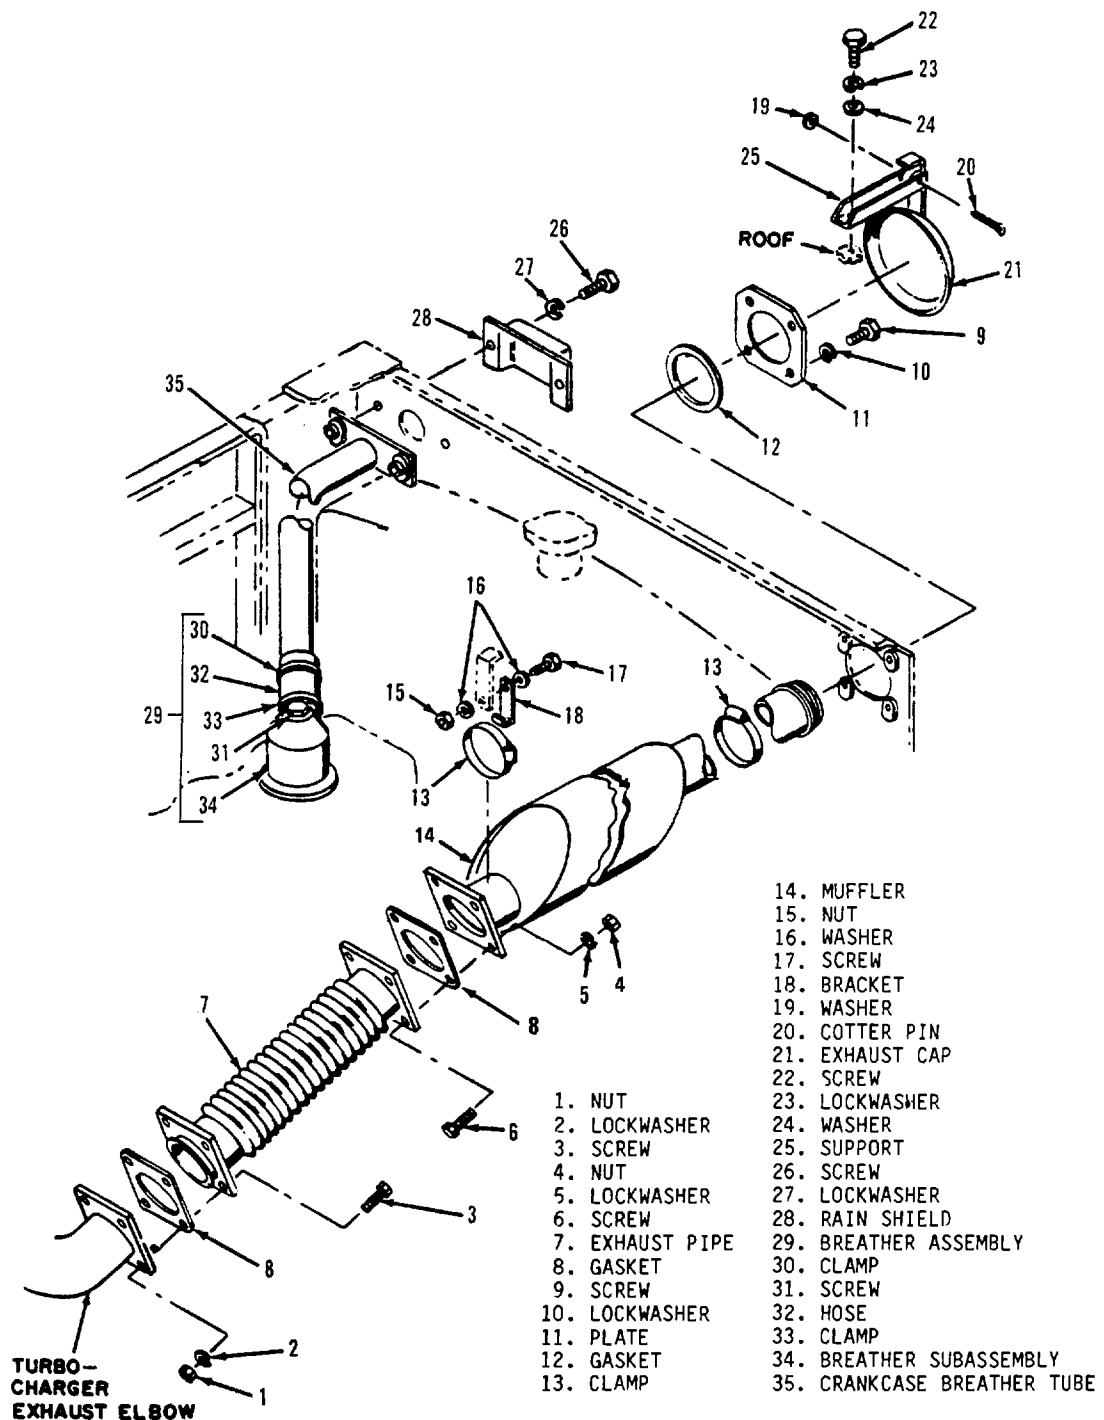

Figure 4-50. Exhaust and Breather System, Exploded View
4-96. INSPECTION. Inspect the exhaust and breather system as follows (see figure 4-50).
a. Removal. See figure 4-50 and proceed as follows:
(1) Remove nuts (1), lockwashers (2), and screws (3) to separate exhaust pipe (7) from the turbocharger exhaust elbow.
(2) Remove nuts (4), lockwashers (5), and screws (6) to separate exhaust pipe (7) from muffler (14).
(3) Remove exhaust pipe (7), then remove and discard gaskets (8).
(4) Remove screws (9) and lockwashers (10), then remove plate (11) and gasket (12) from muffler (14).
(5) Hold the muffler (14) in position and remove clamps (13), then remove the muffler from the generator set.
(6) If the bracket (18) is damaged, remove nut (15), screw (16), and washers (17) to remove bracket (18).
(7) If the exhaust cap or support are damaged, remove retaining washer (19) and cotter pin (20) to
(1) Remove screws (26) and washers (27) to remove rain shield (28).
(2) Loosen forward engine breather clamp (30). Loosen engine breather screw (31) to permit movement of breather assembly (29).
(3) Hold engine breather hose (32) stationary and twist breather tube (35) to separate tube from hose (32).
(4) Loosen rear engine breather clamp (33) to remove engine breather hose (32) from engine breather subassembly (34). Cover engine breather opening immediately.